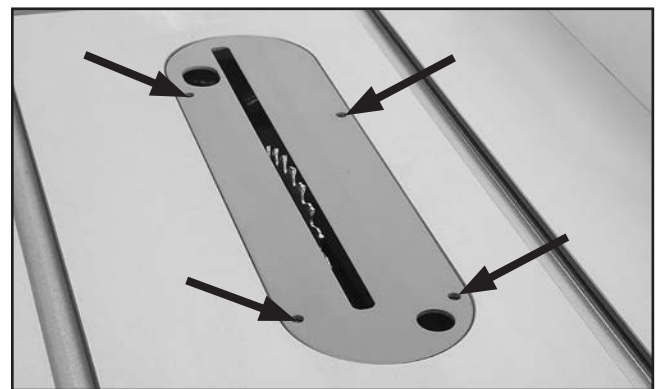

Figure 121. Location of table/dado insert holes with adjustment screws.
The table/dado insert must sit perfectly flush with the table to provide a smooth, continuous surface for the workpiece to slide over. The insert is held in place by a magnet and sits on top of four adjustment screws (see **Figure 121**).
3. Insert hex wrench through holes shown in **Figure 121** and either loosen screws to raise insert, or tighten screws to lower it. Repeat **Steps 2–3** until insert is perfectly flush with surface of table.